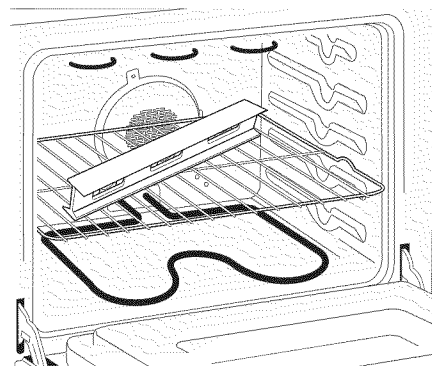

Figure 12
2. Place a level on the rack (Figure 12). Take 2 readings with the level placed diagonally in one direction and then the other. Level the range, if necessary, by adjusting the 4 leg levelers with a wrench.